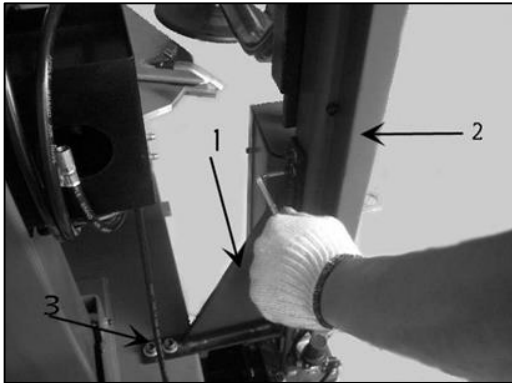

Fig. 33
6.1.5 Use the fixed supporting bracket (Fig. 33) to connect the body bracket and the body. Insert the screw to connect.